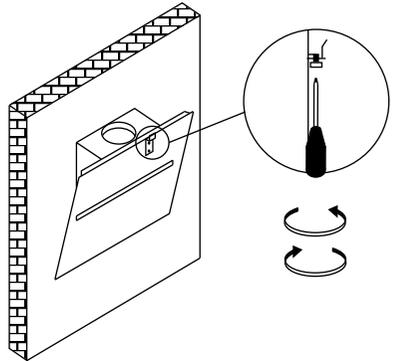

Fig 6
4. Hang the Vivaldi over the brackets and fix with screws provided (Fig 6).